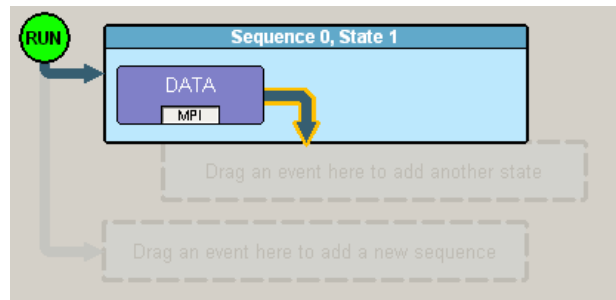

Figure 7.31 Example 5: First State Complete
Step 5 An arrow appears next to the Data button (Figure 7.31). The arrow points to the cell for the second state in this sequence.